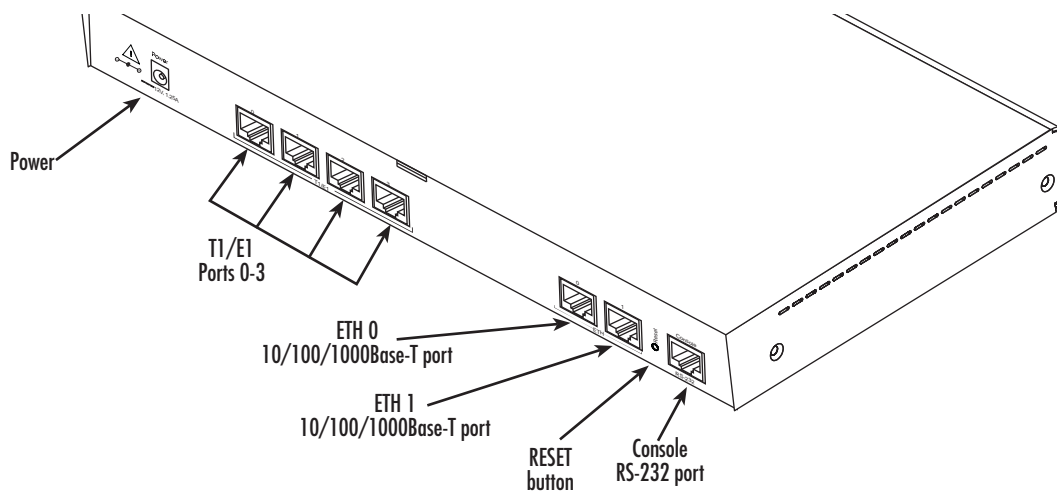

Figure 7. Power connector location on rear panel
1. Insert the barrel type connector end of the AC power cord into the external power supply connector (see figure 7).